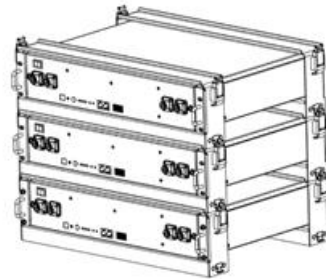

Figure3-7
4. Stack the required number of battery and bracket combinations as described above, and fasten the top and bottom buckles. Shown as Figure3-7.